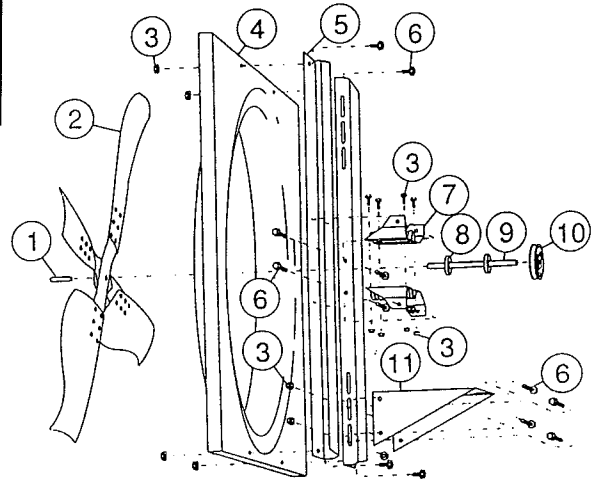

Figure 1
1. Unpack the fans, locate and identify all parts as shown in Figure 1.
3. Assemble the shaft and bearing assembly complete with rubber rings and the two bearing caps (Item 7) as shown in Figure 1 using 5/16 bolts and nuts provided.
4. Lay the orifice panel on a flat surface with the discharge down. Attach the support angles to the orifice in the relationship shown in Figure 1 using the 5/16 bolts and nuts provided. Do not tighten the bolts at this time.
5. Attach the shaft and bearing cap assembly to the support angle as shown in Figure 1 with the end of the shaft, with the 1/4" diameter hole, toward the discharge of the orifice using the 5/16 bolts and nuts. The shaft should be perpendicular to the support angle.
6. Attach the motor base to the support angles as shown in Figure 1 with the motor base perpendicular to the support angle.
8. Install the fan sheave to the fan shaft as shown in Figure 1 using the 1/4" square key. The fan sheave is the larger of the two sheaves provided.
9. Attach the propeller to the shaft using the roll pin (Item 1) as shown in Figure 1.